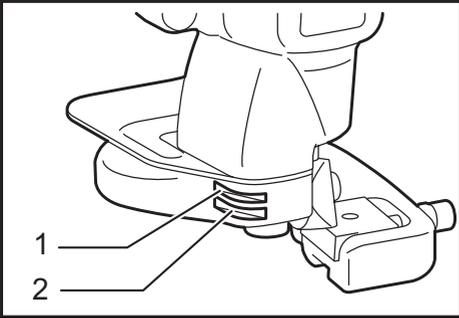

Fig.2
- Fig.2: 1. Gauge for stainless: 2.5 mm (3/32")